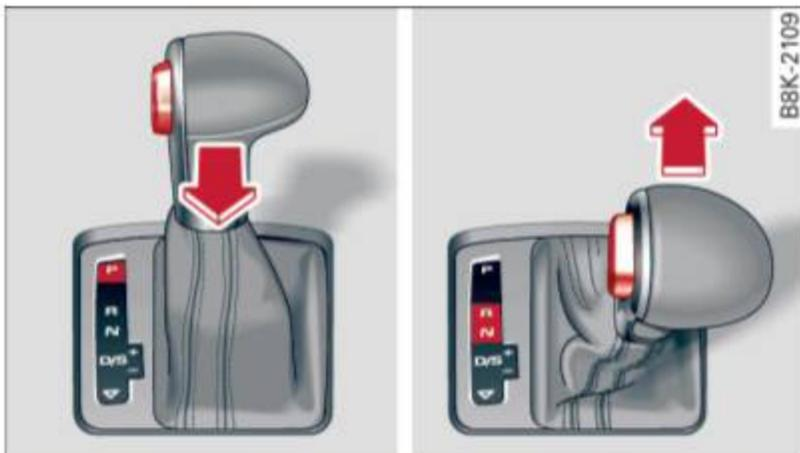

Fig. 104 Shift gate: selector lever lock positions and release button highlighted
- ▶ Step on the brake pedal. *At the same time* press and hold the release button on the side of the gear selector knob ⇒ *fig. 104* with your thumb until you have moved the selector lever to the desired position.
The release button on the selector lever prevents the lever from being accidentally shifted into certain positions. Depending on the direction of the shift, the selector lever locks at different positions. The positions are highlighted in the illustration ⇒ *fig. 104*.